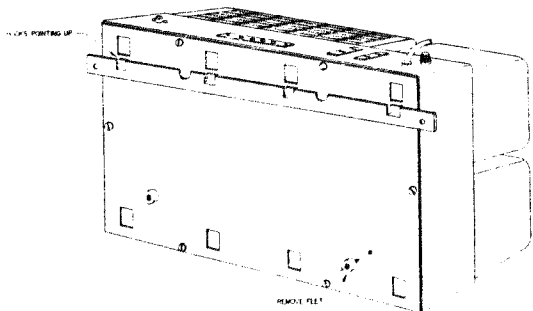

Fig. 6 — Affixing Mounting Brackets
**MOUNTING**—The A50 may be mounted in any position. The amplifier is supplied with rubber feet to prevent marring of the surface on which it is placed. For mounting in a vertical position or for fixed upright mounting (See Fig. 6 "Affixing Mounting Brackets") remove these feet by extracting the screws located in the center of each rubber foot. Install one mounting bracket in the desired location on supporting wall or surface with the hooks pointing up. Install the second mounting bracket on the lower end of the bottom plate with the hooks facing down. Place the amplifier so that the hooks on mounted bracket engage the four cutouts on the bottom plate nearest the top and fasten the second mounting bracket to the supporting wall or surface. Reasonable ventilation is required, and the unit should not be operated in small, completely enclosed spaces. Brackets may also be used for permanent horizontal mounting and are designed to permit mounting in a standard rack. Under unusual conditions of very restricted ventilation, the tube and component cover may be removed to assist cooling.